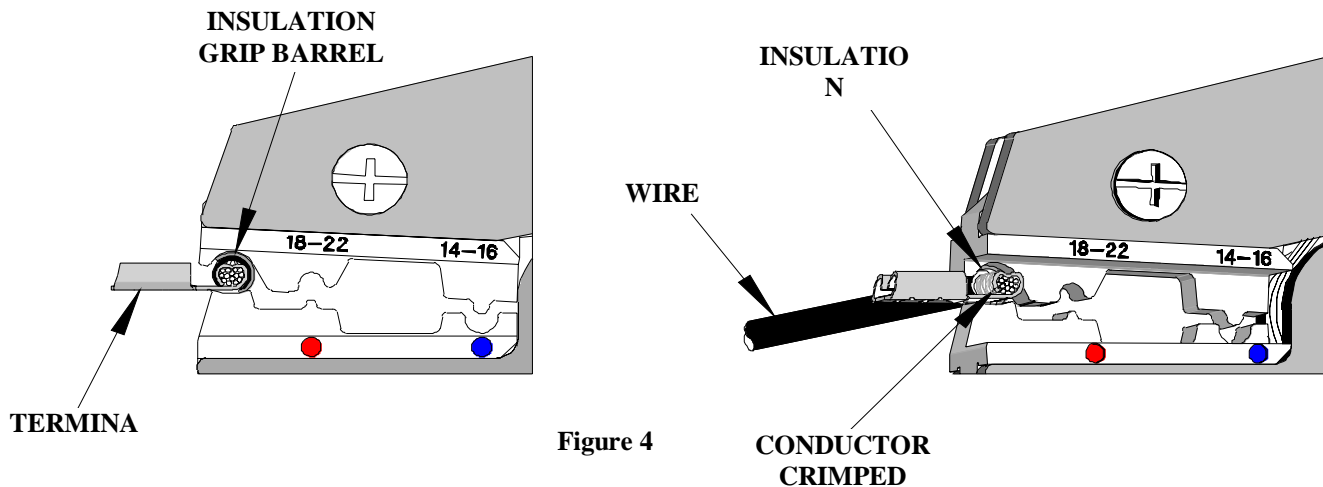

Figure 4
1. After the conductor barrel crimp has been crimped, load the terminal with the wire into the insulation grip nest, as shown in Figure 4. Make sure the wire is positioned from the opposite side. See Figure 4.
3. Make certain all pins; pivot points and bearing surfaces are protected with a thin coat of high quality machine oil. Do not oil excessively. The 64003-4200 (RHT-NIFG) was engineered for durability, but like any fine piece of equipment, it needs cleaning and lubrication for a maximum service life of trouble-free crimping. A light oil, such as 30 weight automotive oil used at the oil points shown in Figure 4, every 5,000 crimps or 3 months will significantly enhance the tool life and ensure a stable calibration.